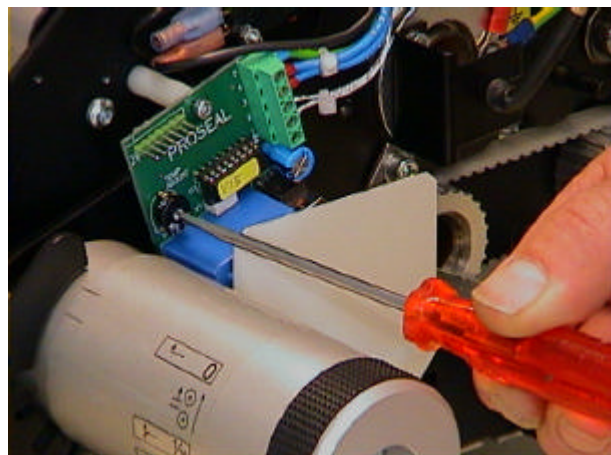

fig. 41
3. To change the temperature setting, insert the screwdriver in the trimpot as shown in figure 41. Rotating clockwise increases the temperature, counter clockwise rotation will decrease the temperature.